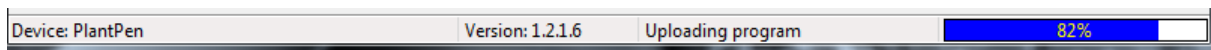

Fig. 22 Uploading process.
- The bottom bar indicates the upload progress (Fig. 22).